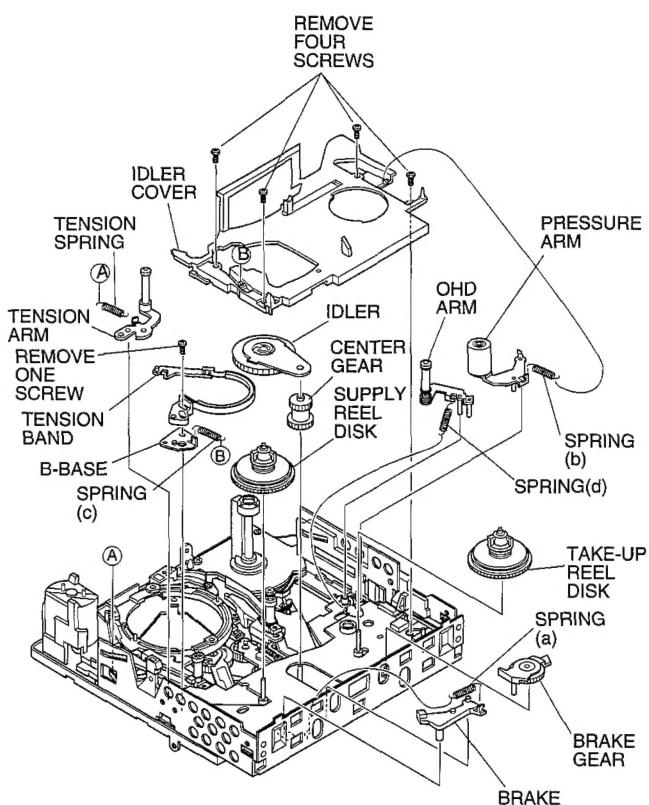

Fig.2-4
- (1) Release the spring (a) between the brake and sub chassis. (See Fig. 2-4)
- (2) Release the spring (b) between the pressure arm and idler cover.
- (3) Release the spring (c) between the B-base and idler cover.
- (4) Remove 4 screws.
- (5) Remove the idler. (See Fig. 2-4)
- (6) Pull up the center gear.
- (5) Remove the brake. (See Fig. 2-4)
- (5) Pull up the brake gear. (See Fig. 2-4)
- (5) Pull up the take-up reel disk. (See Fig. 2-4)
- (5) Pull up the pressure arm. (See Fig. 2-4)
- (6) Release the spring (d) between the sub chassis and OHD arm.
- (7) Pull out the OHD arm.
- (5) Release the tension spring. (See Fig. 2-4)
- (6) Remove 1 screw holding the tension band and B-base.
- (7) Remove the tension band with the tension arm.
- (9) Pull up the supply reel disk. (See Fig. 2-4)